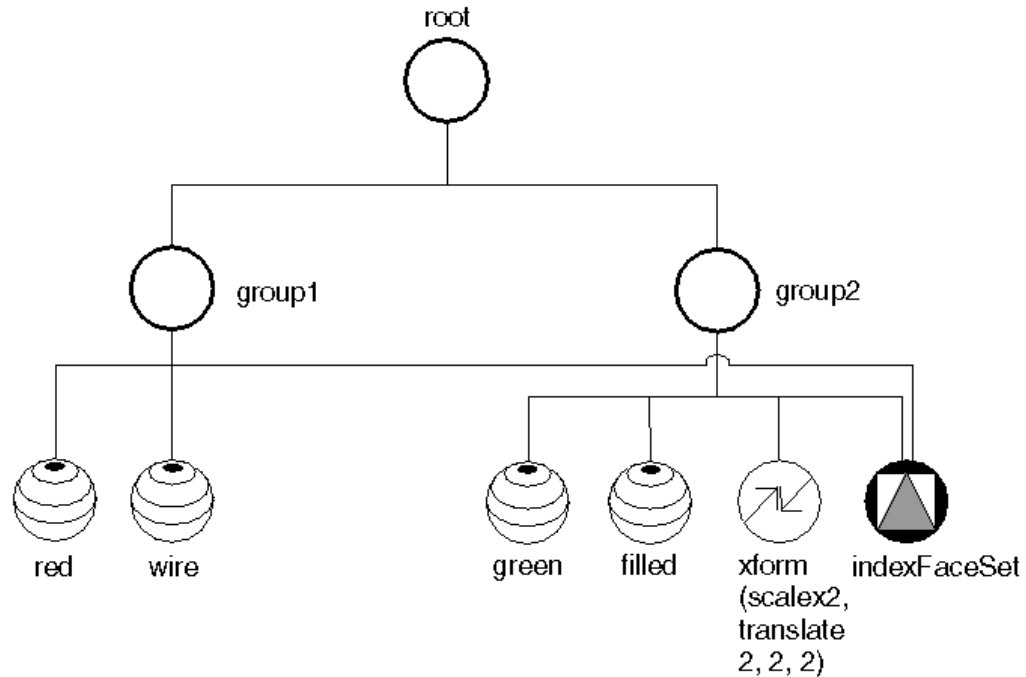

Figure 9.2 Shared Instances of a Shape Node
- If the node is a *shape* node, it causes its shape to be drawn, using the current elements in the traversal state. Figure 9.2 shows an indexed face set instantiated in two different groups. When rendered as part of *group1*, it uses the current elements of the traversal state, causing a red wireframe face set to be drawn. Because subsequent nodes in *group2* modify the current material, drawing style, and transformation matrix, the next instance of the indexed face set, later in the graph, appears green and filled. It is also twice as big as the red face set and translated to a new location.